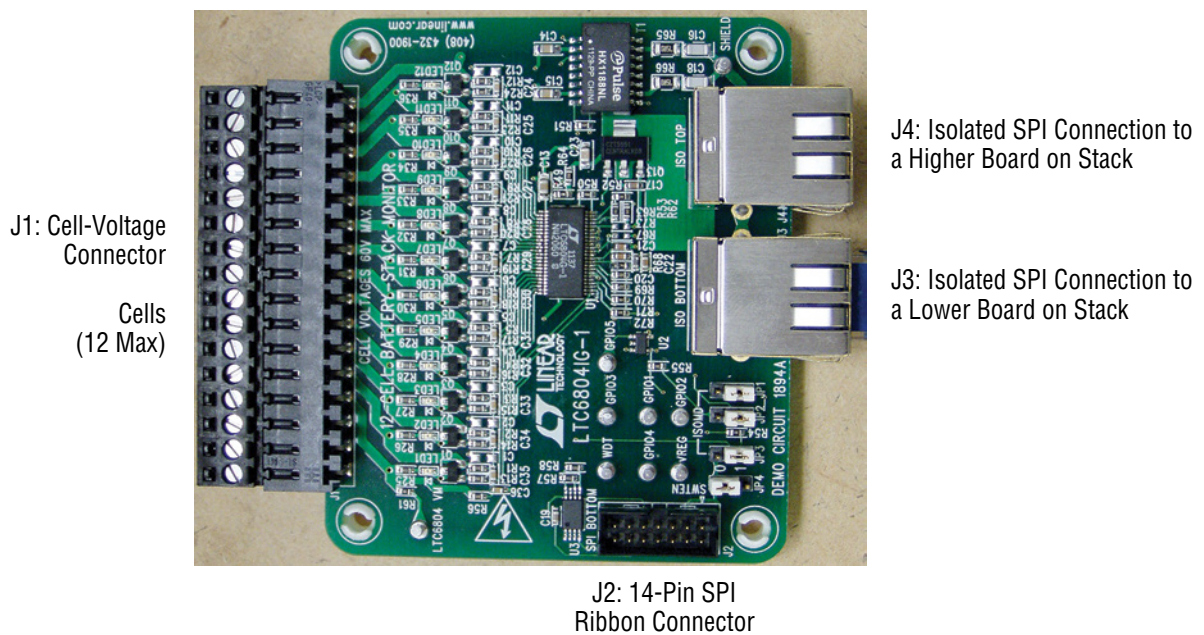

Figure 2. Connections and Jumpers
4. Set the jumpers on each DC1894B as shown in Figure 2 and Table 1.